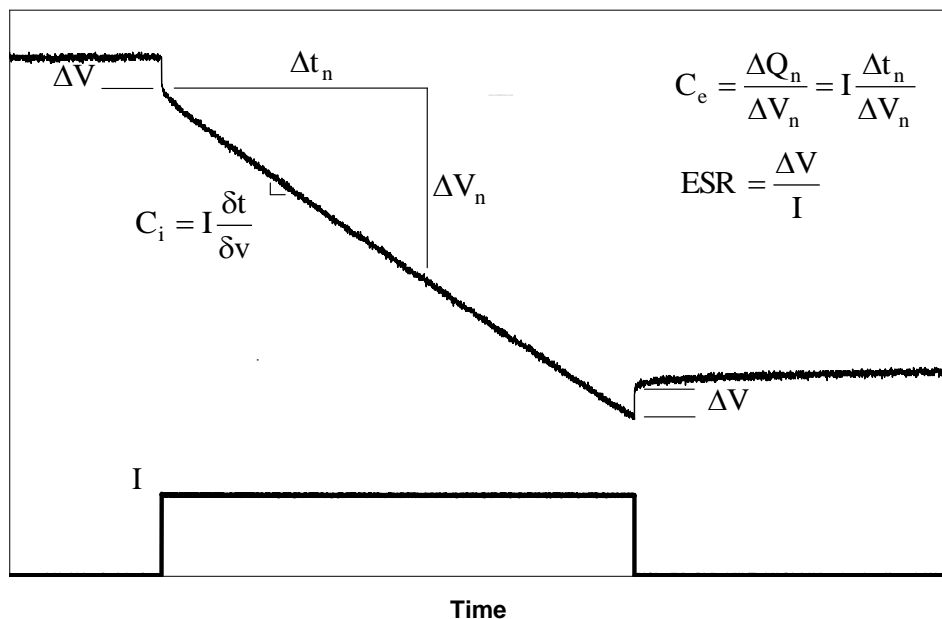

Figure 2: Effective capacitance, instantaneous capacitance and ESR
In its simplest form, the Equivalent Series Resistance (ESR) of a capacitor is the real part of the complex impedance. In the time domain, it can be found by applying a step discharge current to a charged cell as in Fig. 2. In this figure, the supercapacitor is pre-charged and then discharged with a current pulse (I).